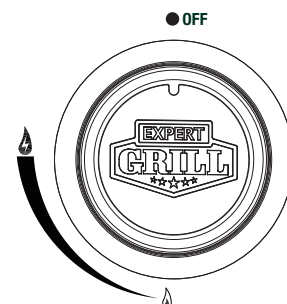

Figure 3
3. Insert and rotate LP gas tank clockwise until they fit snugly together. **HAND TIGHTEN ONLY.** Be careful not to crossthread when screwing in tank (Figure 3).